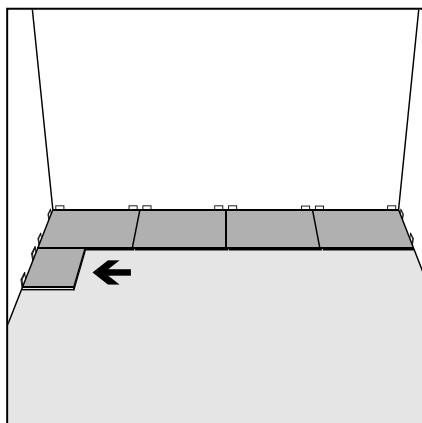

Figure 15 First plank, second row
- ▶ Insert a spacer between the end of the first row and the wall (expansion gap). Start this new row with the leftover piece from the last row (min length 350mm– Fig 15).